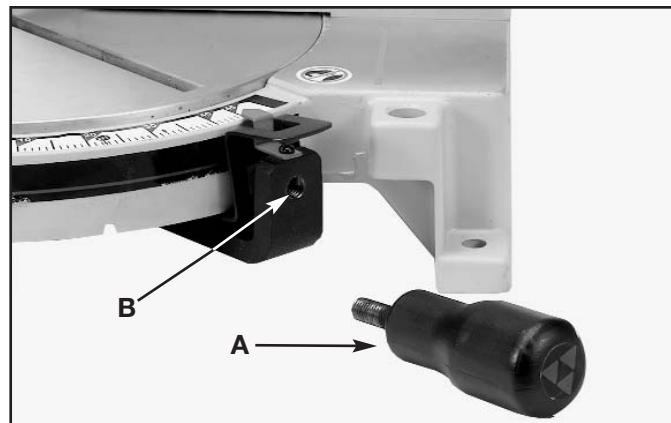

Fig. 2
Thread table lock handle (A) Fig. 2 into the threaded hole (B) of the arm bracket.